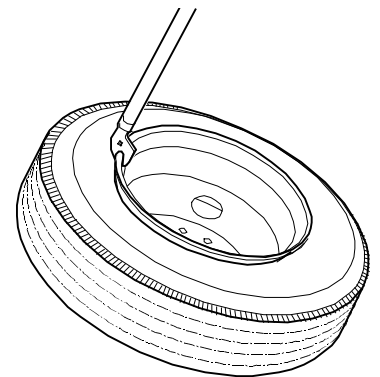

Figure 2
5. Slowly pull the handle of the wheel tipper towards you to raise the wheel to a standing position. See Figures 2 and 3.